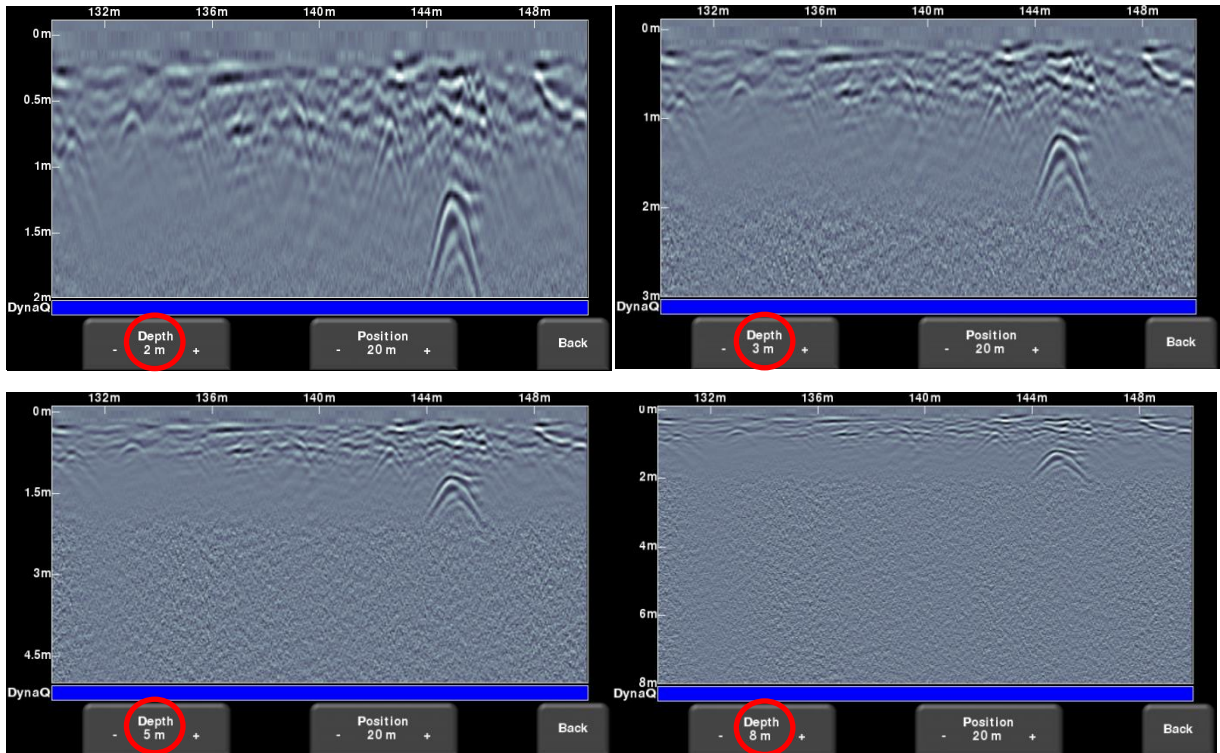

Figure 8-7: Varying displayed depth
- **Depth** – Pressing **+** and **-** under the **Depth** button allows you to change the display depth of the data. This is commonly referred to as the depth window. The pre-set values range from 1m to 8m (3' to 25'), see Figure 8-7.